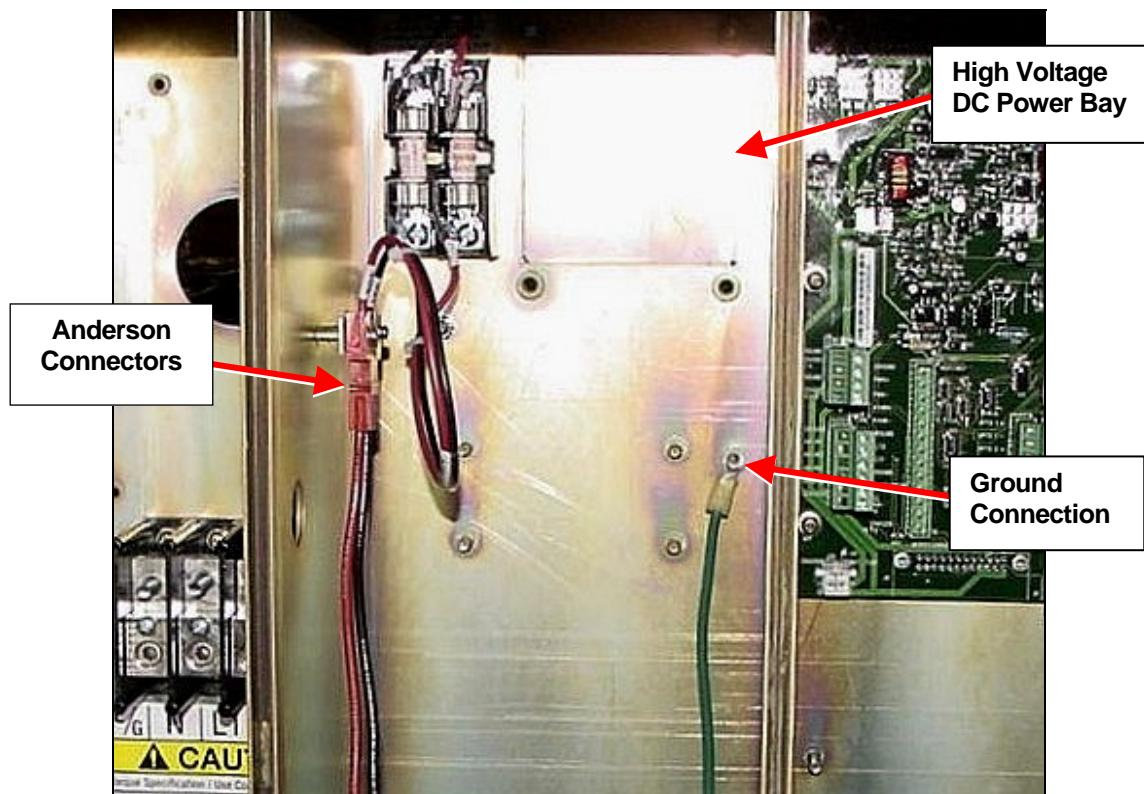
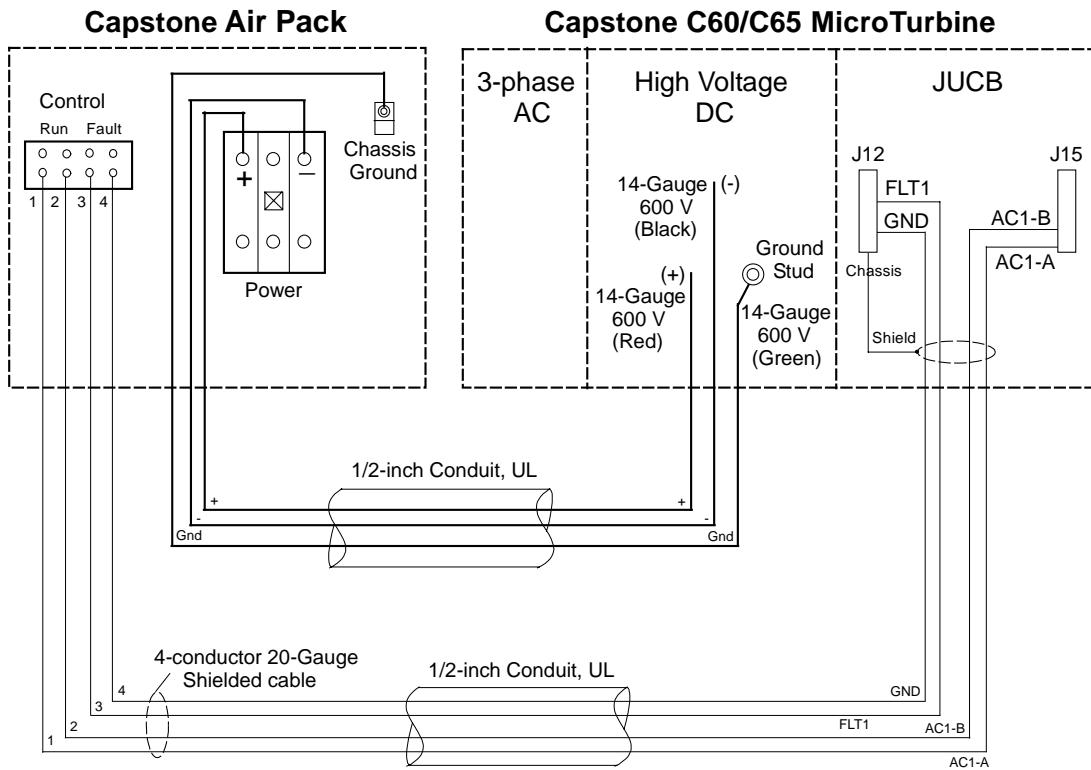
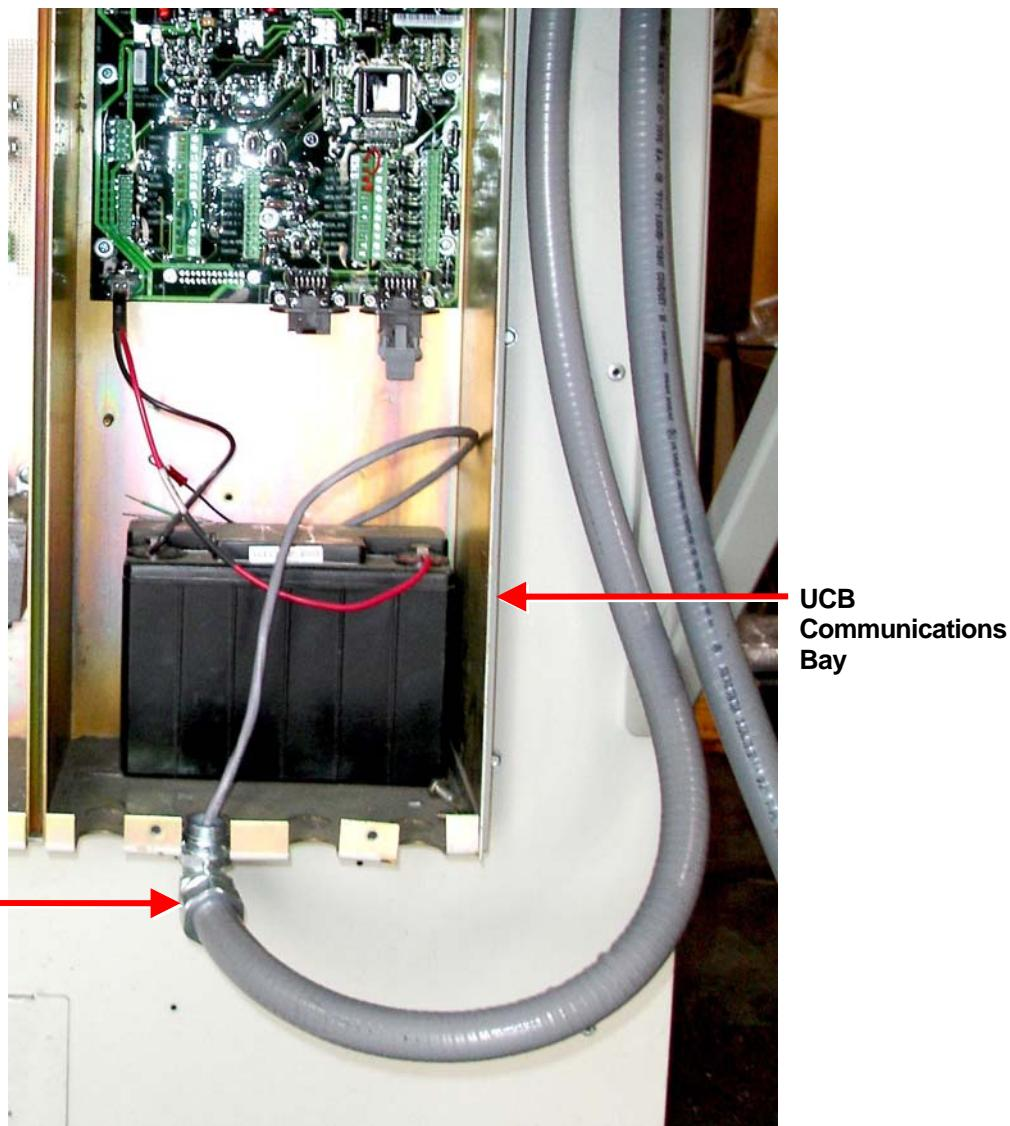
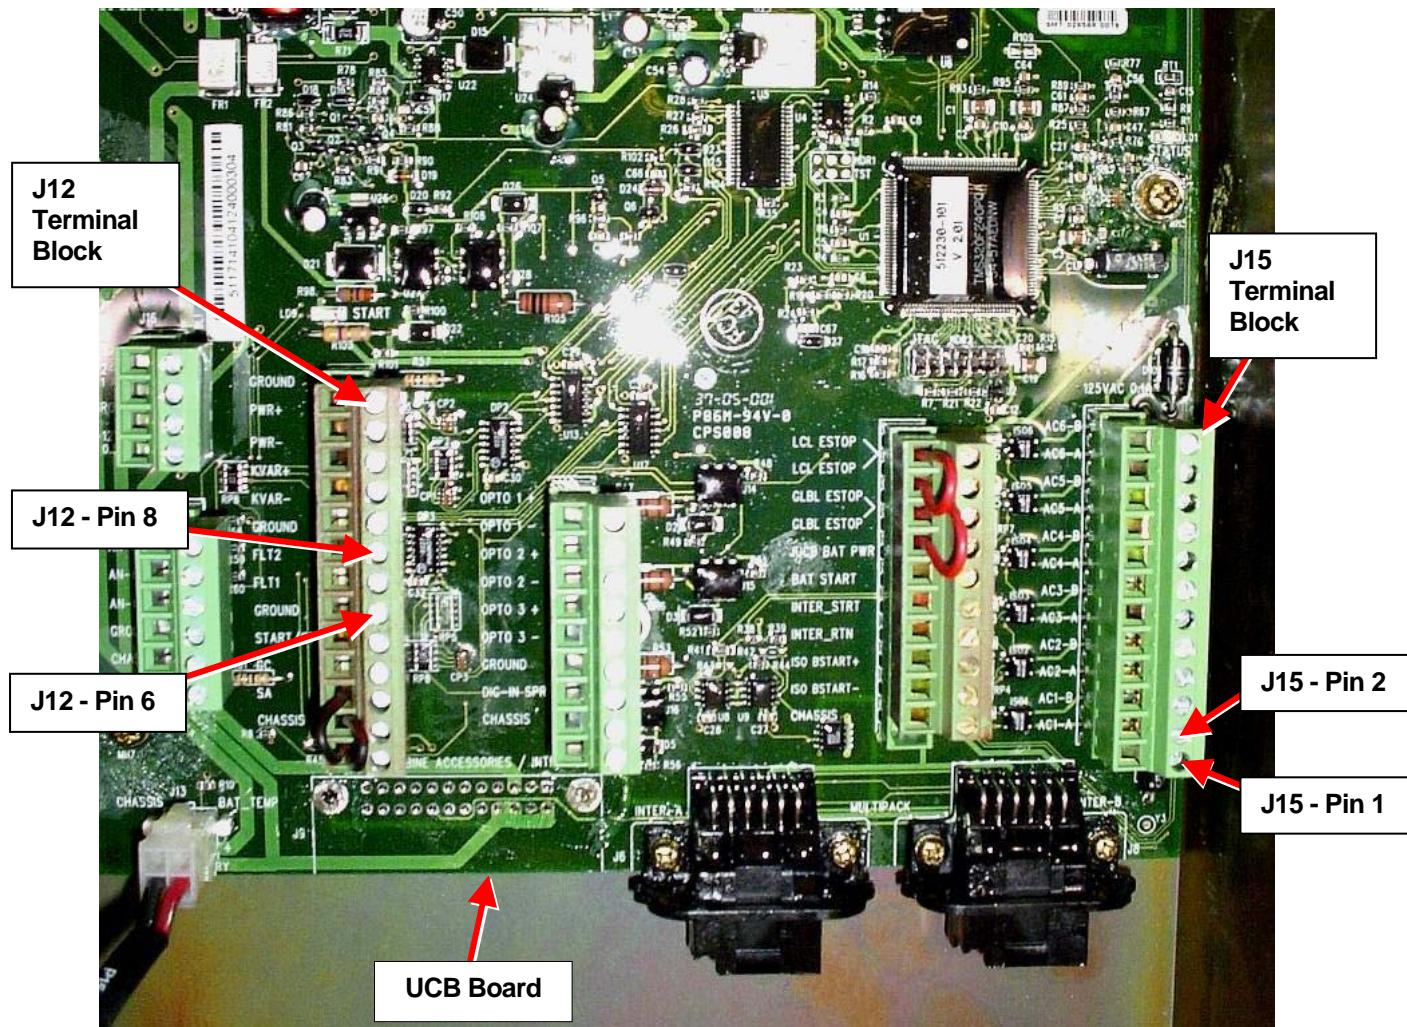

Figure 9. Connecting Conduit with 3 Wires to UCB (without Precharge)
Figure 10. Wiring Between DC Air Pack and UCB (without Precharge)
Figure 12. Installing Conduit with 4 Signal Wires to Bottom of UCB
Figure 13. Connectors J12 and J15 on UCB Board
- b. For UCBs without Precharge Assembly in HVDC Bay: Connect the red and black power wires to the mating Anderson connectors (black to black and red to red). Connect the green wire to the ground stud in HVDC bay wall using an 8mm socket wrench. Refer to Figure 9 and Figure 10 as required.
- d. Install the flexible conduit with four control signal wires to the bottom of the MT Communications bay on the UCB (see Figure 12). The four wires are labeled with the connection locations. Connect according to Table 2. Refer to Figure 10 and Figure 13 for UCB terminal locations.